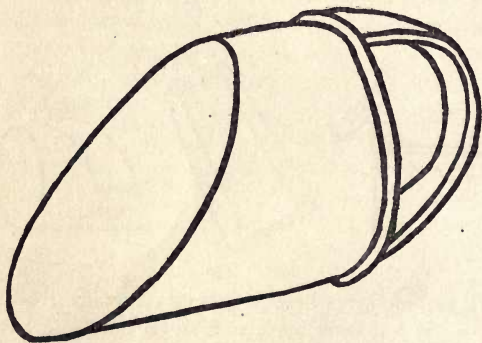

FIG. 15.
**The Sugar Scoop.**—A useful sugar or flour scoop may be easily made from a small or large can in exactly the same manner as the biscuit cutter, except that the can is cut off slanting instead of square, Fig. 15. The edges of the scoop should not be turned or folded but should be left as cut so as to form a sharp cutting edge that will easily enter sugar or flour. The handle is shaped in exactly the same manner as that of the biscuit cutter.